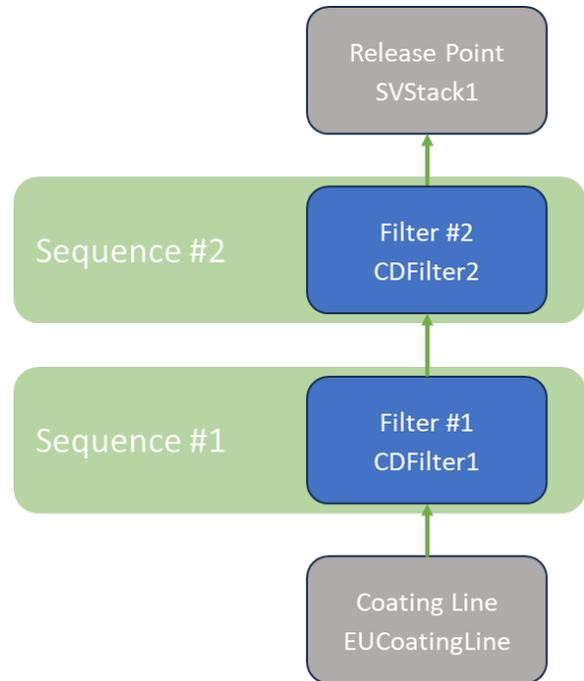

Figure 11-8 Different Sequence Numbers in a Series
- Entries with different sequence numbers are in series, meaning that the exhaust gas must go through the lower sequence number before going through the higher sequence number. See Figure 11-8.